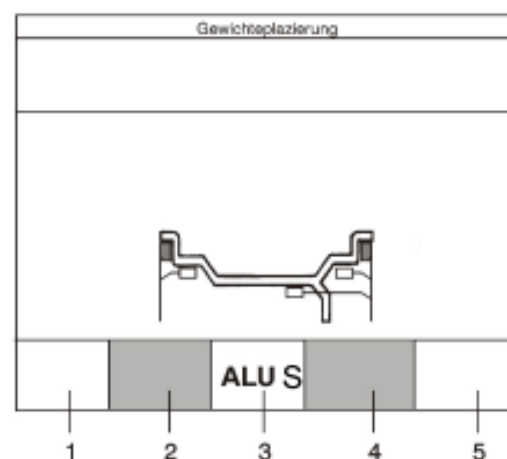

Fig. 28
- Starting from the screen as in Fig. 22 „Wheel data,, press menu key 5. The screen as in **Fig. 28** „Balancing modes,, comes up.
- Press the menu key under the highlighted menu field on the left (Fig. 28, Item 2) if necessary several times until the weight symbol lights up at the desired position on the rim.
- Press the menu key under the highlighted menu field on the right (Fig. 28, Item 4) if necessary several times until the weight symbol lights up at the desired position on the rim.
- To choose between Alu 2 and Alu 2 S, or between Alu 3 and Alu 3 S, press the menu key under the icon for Alu S (Fig 28, Item 3, with Alu S selected).